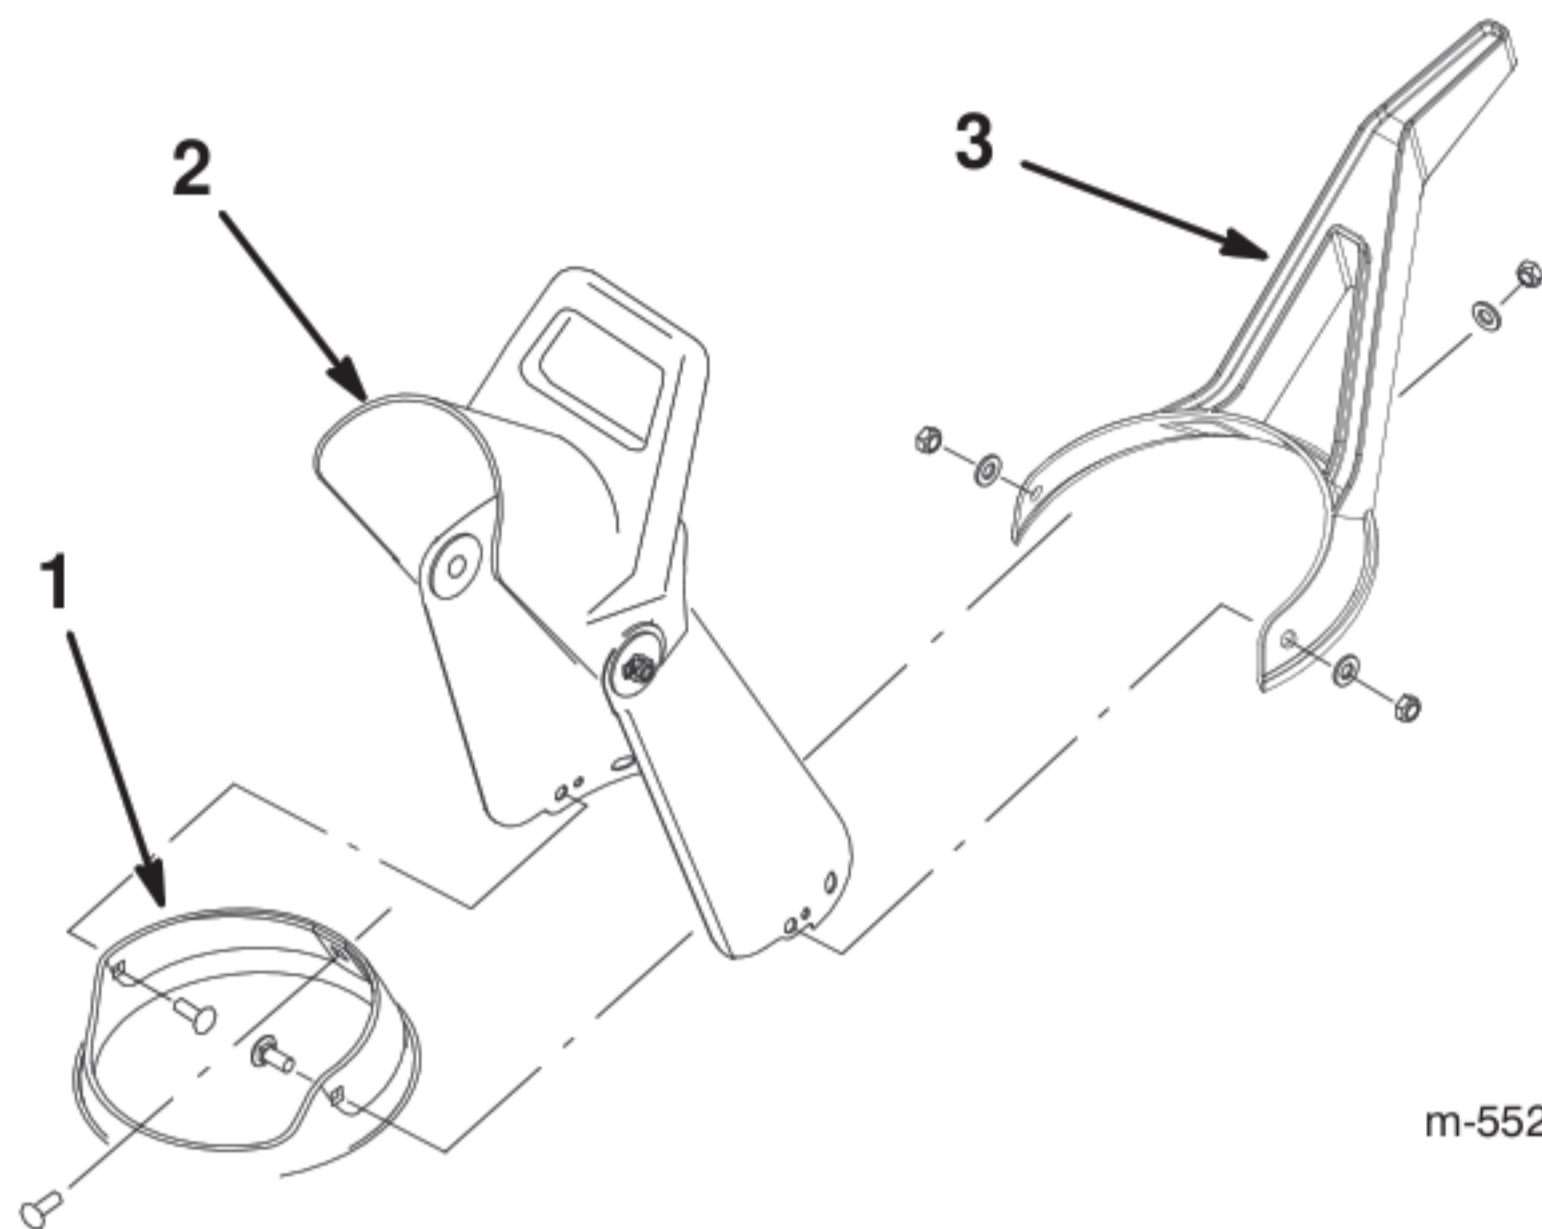

Figure 10
- Place the discharge chute over the chute ring, and align the hole in the back of the discharge chute with the center hole in the chute ring (Fig. 10).
- Insert a screw through the center hole of the chute ring from the inside and through the hole in the discharge chute (Fig. 10).
- Insert the chute handle over the discharge chute, and fully insert the screw through the center hole in the chute handle (Fig. 10).